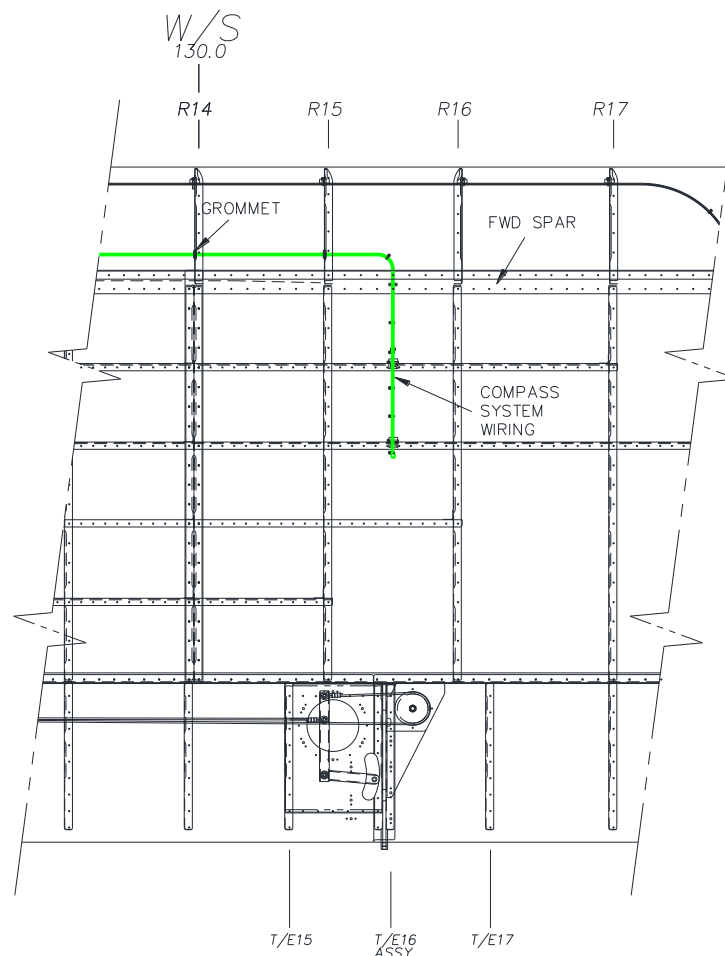

Figure 7: RSM Cable Routing – RH Wing
- 3.5. Remove the redundant compass system wiring from the starboard wing and main spar, and route the 30 feet RSM cable (412-0005-001) in its place. Refer to Figure 7. The grommets used for the compass wiring are to be reused for the RSM cable.